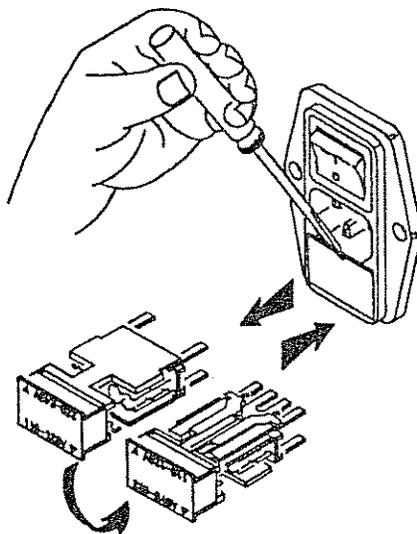

Figure 2-22. Fuse Block Removal
2. Remove the fuse block from the line module/switch assembly. To do this, place the blade of a small screwdriver into the slot that is near the assembly's power cord receptacle and pry the fuse block out of the assembly (see figure 2-22).